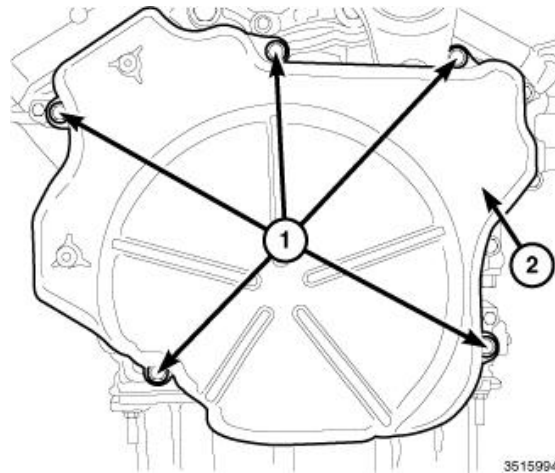

Figure 1 – Vibration Damper Cover
74. Connect the DEF fluid supply line (1) (Figure 1).
75. Connect the DEF injector wire harness connector (3) (Figure 1).
2. Remove the bolts (1) and the vibration damper cover (2) (Figure 1).